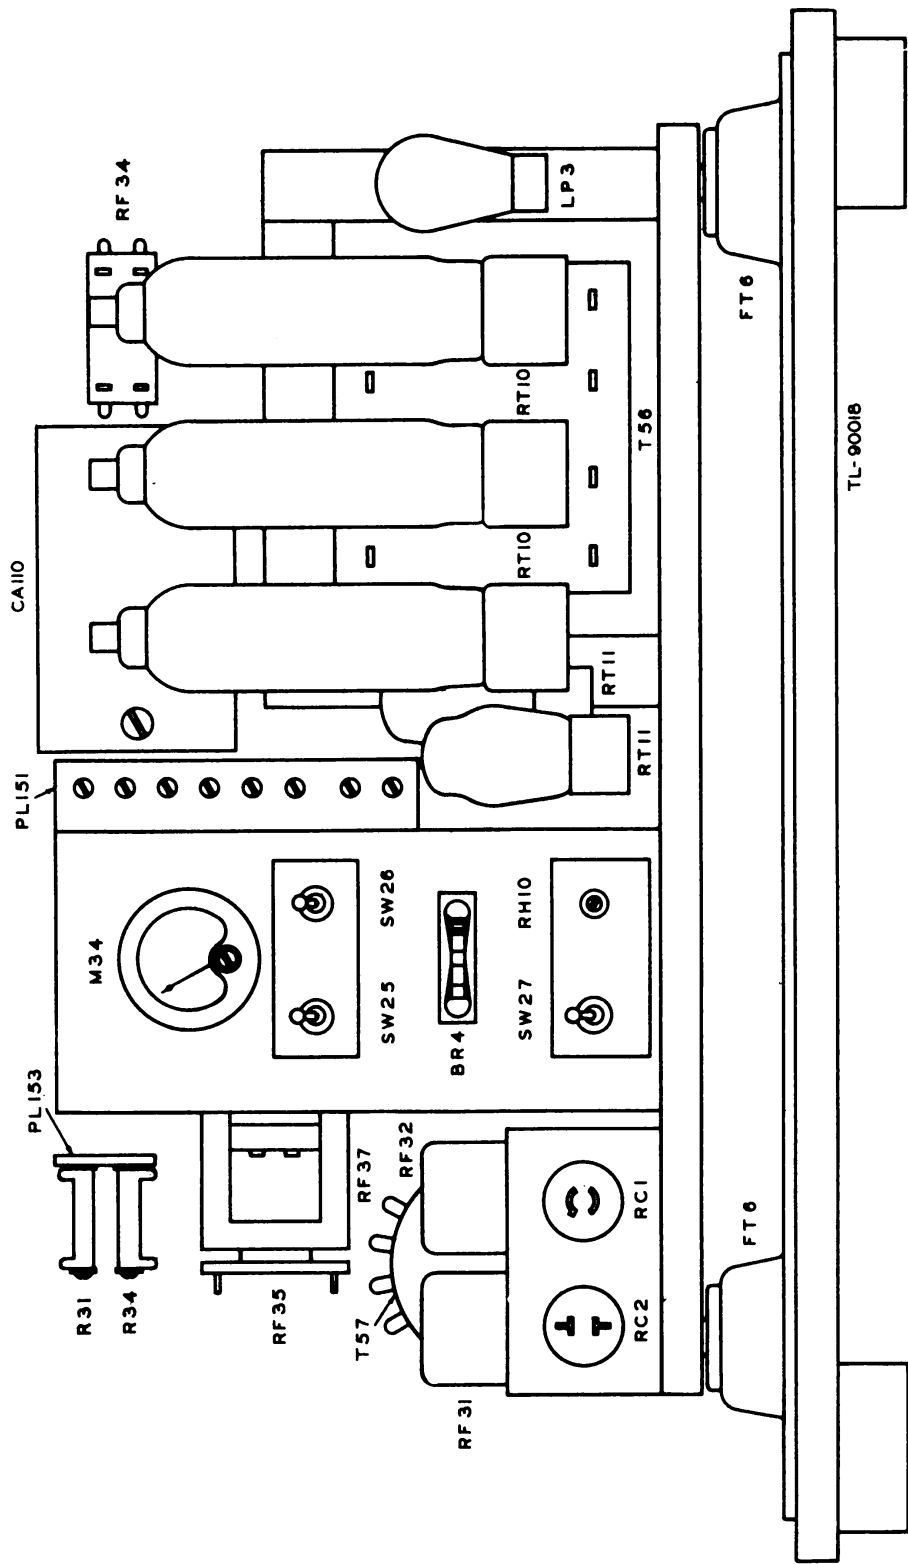

Figure 14. Rectifier RA-43-B, front view, cover removed, parts location diagram.
11. LOCATION OF PARTS (figs. 14 and 15).
18. REMOVAL AND ASSEMBLY OF PARTS (figs. 14 and 15).
Figures 14 and 15 show the location of the parts. Each assembly is completely wired and provided with a solder lug-type terminal board which connects it to the other assemblies through the main connecting cable. To simplify repairs or replacement it may be desirable at times to remove an entire assembly from the main unit.